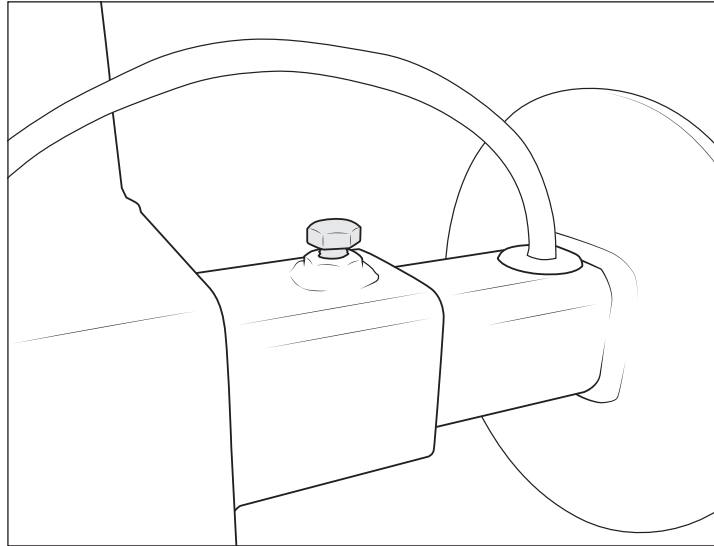

Figure 24
11. Temporarily install the M10 X 20 anti-vibration bolt into the Tire Carrier. Tighten it a bit to prevent the 1/2" bolt from sliding rearward when the tire is initially installed so that it cannot damage the tailgate. Tighten this bolt fully after the tire is on for the first time and after the 1/2" bolt has been adjusted (fig. 24).